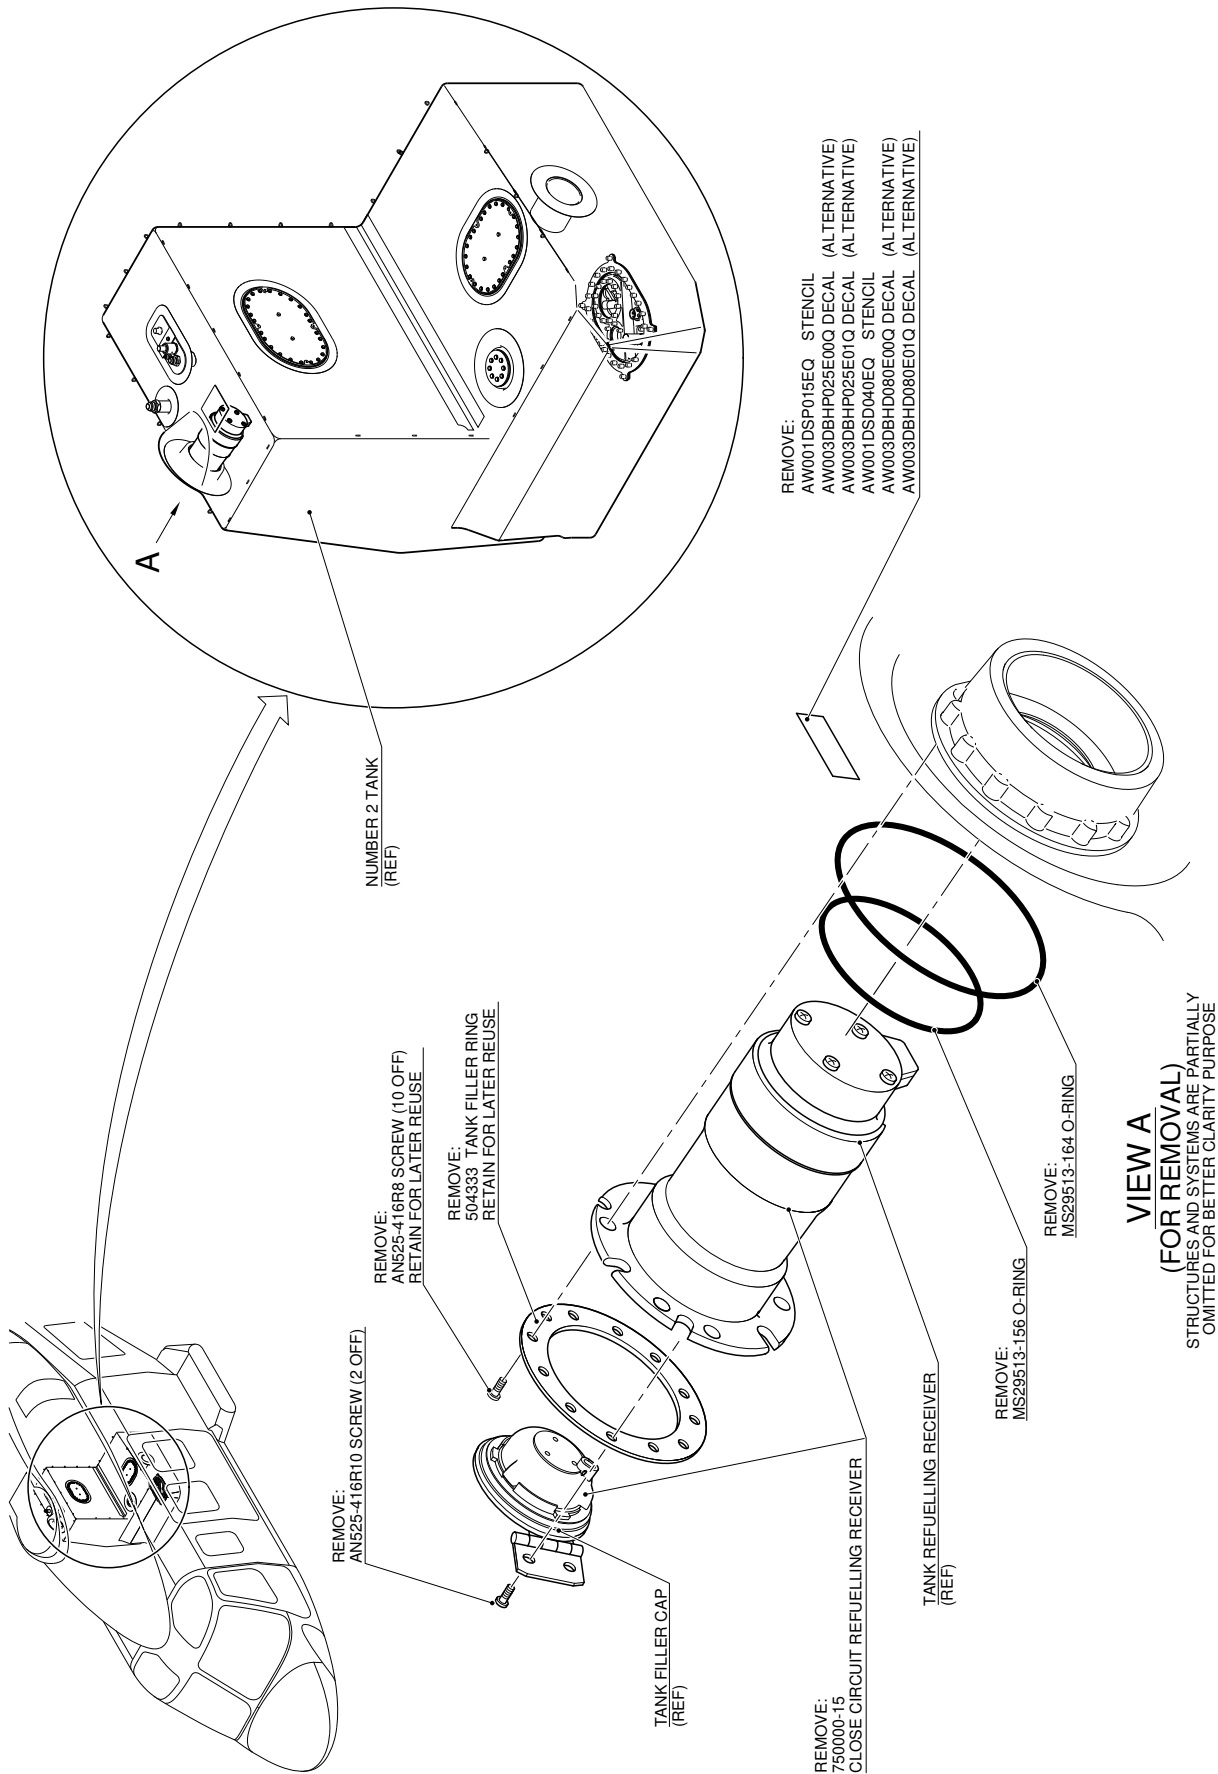

Figure 1
2. With reference to Figure 1, perform the removal of kit close circuit refuelling receiver P/N 4G2820F00111 as described in the following procedure:
- 2.1 In accordance with AMP DM 39-A-28-11-03-00B-520A-K and with reference to Figure 1 View A, remove the tank filler cap (part of close circuit refuelling receiver P/N 750000-15) and n°2 screws P/N AN525-416R10.
- Figure 1 View A, remove the tank filler ring P/N 504333 and n°10 screws P/N AN525-416R8. Retain the tank filler ring and the screws for later reuse.
- 2.3 In accordance with AMP DM 39-A-28-11-19-00B-520A-K and with reference to Figure 1 View A, remove the tank refuelling receiver (part of close circuit refuelling receiver P/N 750000-15), the O-ring P/N MS29513-156 and the O-ring P/N MS29513-164. Discard the O-rings.
- 2.4 With reference to Figure 1 View A, remove and discard the stencil P/N AW001DSP015EQ or the decal P/N AW003DBHP025E00Q or the decal P/N AW003DBHP025E01Q.
- 2.5 With reference to Figure 1 View A, remove and discard the stencil P/N AW001DSD040EQ or the decal P/N AW003DBHD080E00Q or the decal P/N AW003DBHD080E01Q.